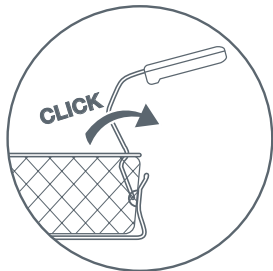

Fig. 5
- Completely unfold the basket handle; a “click” indicates that it is correctly positioned – fig. 5.